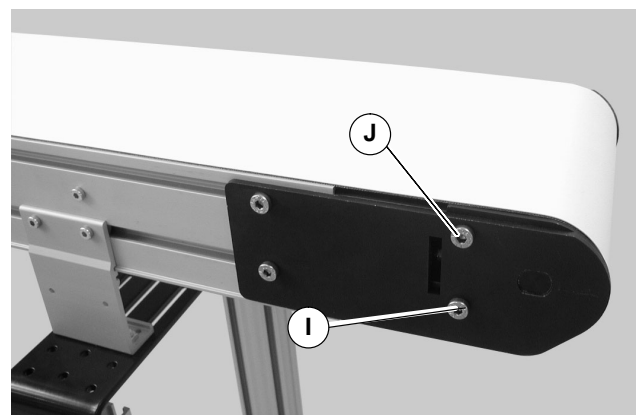
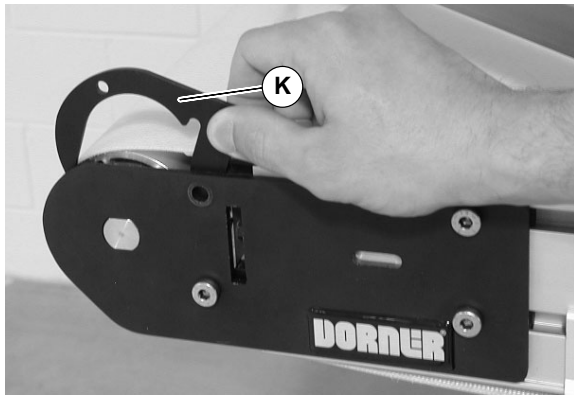

Figure 4
Figure 5
3. Loosen screw (I of Figure 4) on both sides of conveyor.
- Remove screw (J of Figure 4) on both sides of conveyor. Remove existing spacer plates (K of Figure 5) on both sides of conveyor.